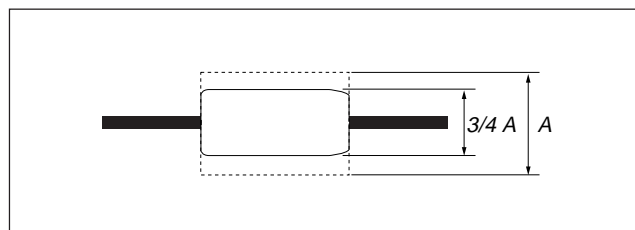

Fig. 5-9.
- 1) Playback the tracking alignment tape in the PATH mode. Compare the amplitude of the RF waveform in the AUTO tracking mode and with that in the PATH mode. Confirm that the amplitude of the RF waveform decreases to about 3/4 when the tracking alignment tape is switched from the AUTO tracking mode to the PATH mode. (Refer to Fig. 5-9)